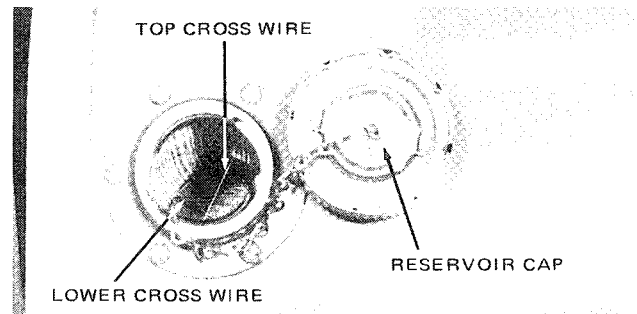

Figure 6
1. Remove reservoir breather cap (Fig. 6).
IMPORTANT: Do not allow the hydraulic fluid to drop below the level of the lower cross wire in the reservoir (Fig. 6). Make certain the reservoir cap is screwed on securely.